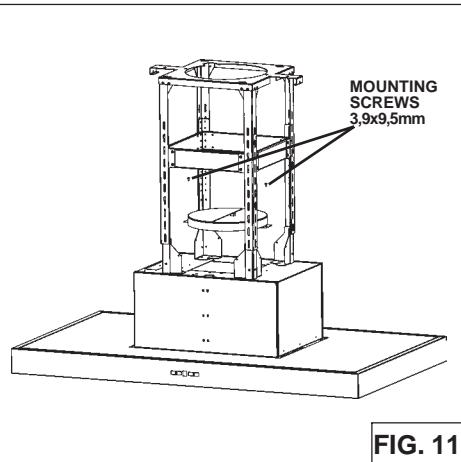

FIG. 11
1. Fix the duct connector onto the hood using 2 screws (3,9x9,5mm) located in the Hardware Package (Fig.11).